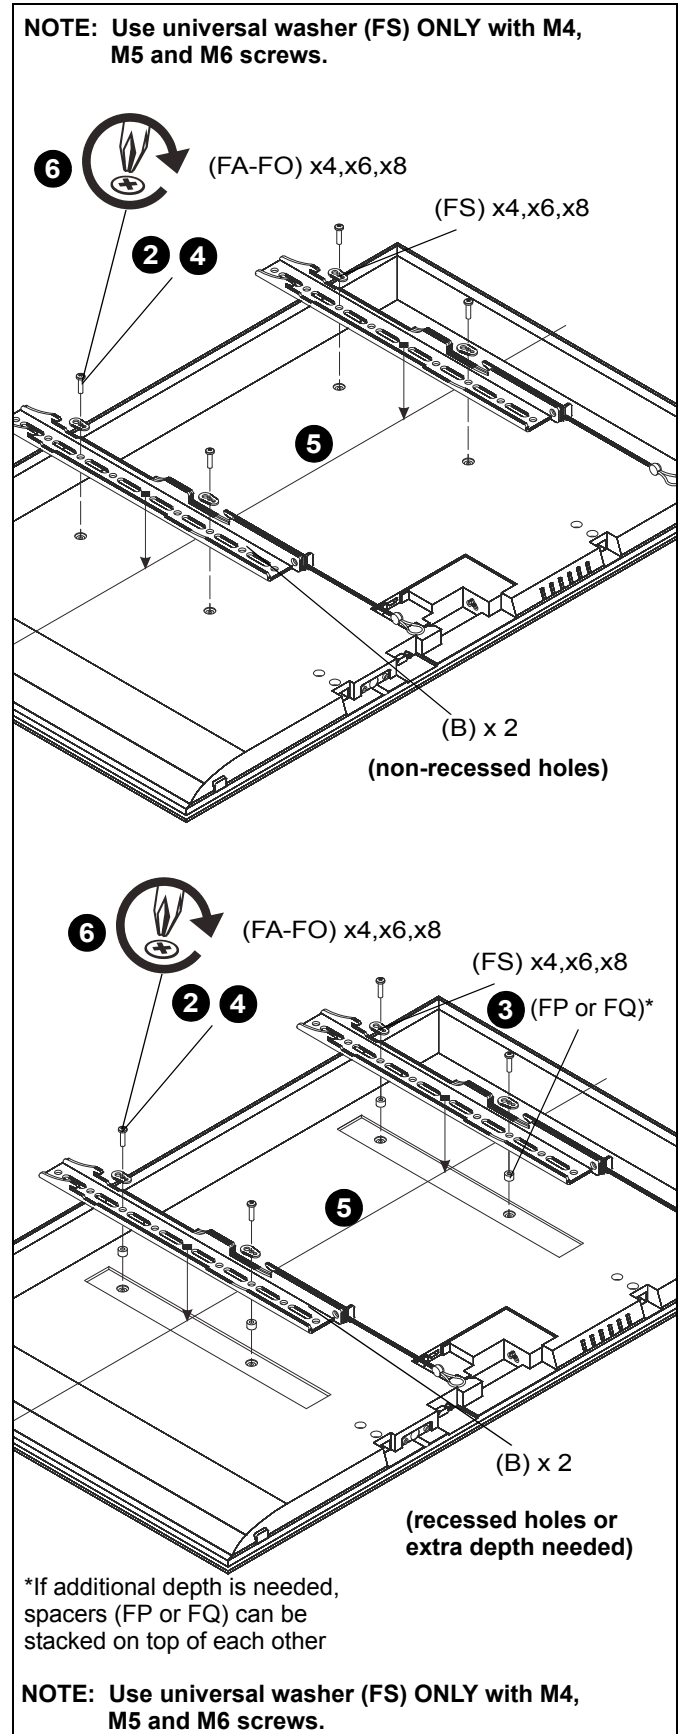

Figure 8
2. Select screw *diameter* by examining hardware (FA-FO) (8mm, 6mm, 5mm, or 4mm) and comparing with mounting holes on display. (See Figure 8)
3. Select spacers: (See Figure 8)
- If mounting holes are not recessed and both brackets (B) can lay flat against display, then no spacers are required.
- If mounting holes are recessed, or if protrusions prevent brackets (B) from laying flat, then spacers (FP or FQ) must be used.
4. Select screw *length*: (See Figure 8)
- Using your hand, insert **SHORTEST** length screw of selected diameter (FA, FE, FI or FL) through bracket (B), universal washer (FS, if required), selected spacer (FP or FQ, if required), into display mounting hole. Do **NOT** thread screw into hole at this time.
5. Place brackets (B) on display, ensuring: (See Figure 8)
- Center of brackets (B) are as close to the center of the back of display as possible after being installed. Center of bracket is indicated by the diamond-shaped hole.
6. Using Phillips screwdriver, carefully install selected screws through universal washers (FS, if required), brackets (B), and spacers (FP or FQ, if required), into display. (See Figure 8)